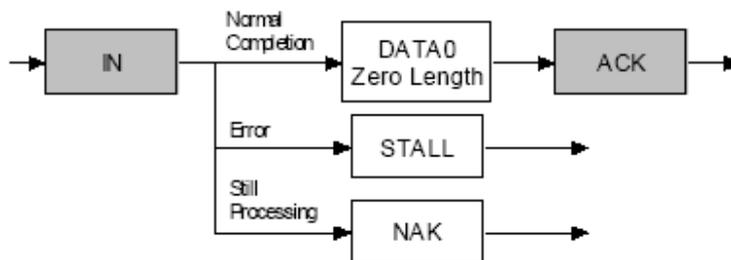

Figure 6-25: Status In Stage
• **IN (Figure 6-25):** If the host sent IN token(s) during the data stage to receive data, then the host must acknowledge the successful receipt of this data. This is done by the host sending an OUT token followed by a zero length data packet. The function can now report its status in the handshaking stage. An ACK indicates the function has completed the command is now ready to accept another command. If an error occurred during the processing of this command, then the function will issue a STALL. However if the function is still processing, it returns a NAK indicating to the host to repeat the status stage later.